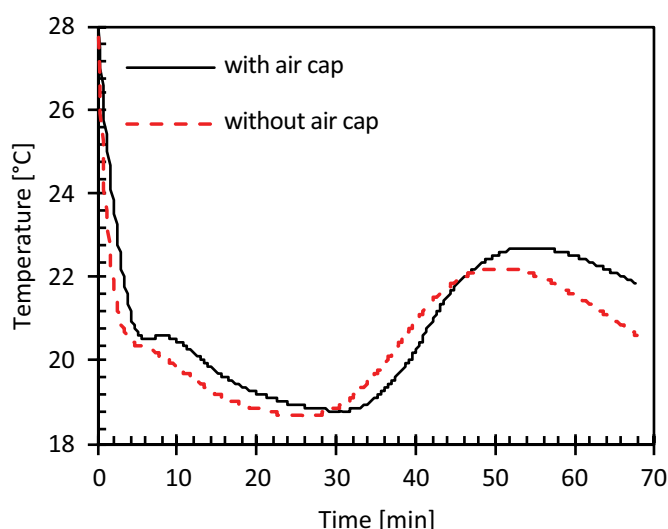

FIG. 1. Cooling curve of a cocoa butter sample with and without air gap at a cooling temperature of 17.6°C
A disposable aluminum cup (volumetric capacity 15 ml) is used as a sample holder, and an air gap between the aluminum cup and the cooling cell serves as an insulation layer for the heat transfer. This allows the sample to be cooled down gently from the beginning. In this way, the inflection point temperature for the crystal nucleation (TN) can be uniquely determined as an inflection point on the recorded cooling curve (Fig. 1, page 26). During the main crystallization (crystal growth) phase, the temperature increase of the sample is more pronounced due to the insulation layer. The reproducibility of the measurements is also significantly improved.